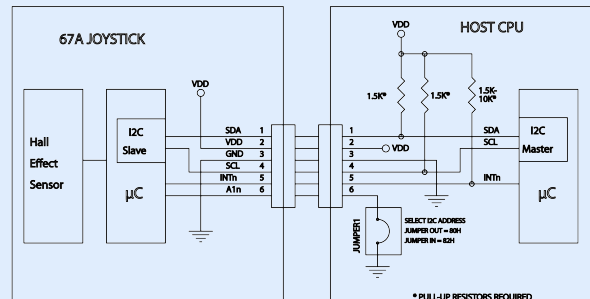

Figure 4.5: Interfacing guidelines given in the datasheet of Joy Stick.
**Important** Pull-ups for SDA and SCL are taken as 1.5kΩ as recommended in the interfacing diagram from the datasheet. The pull-up for INTn is taken as 10kΩ. See figure 4.5 for more info.